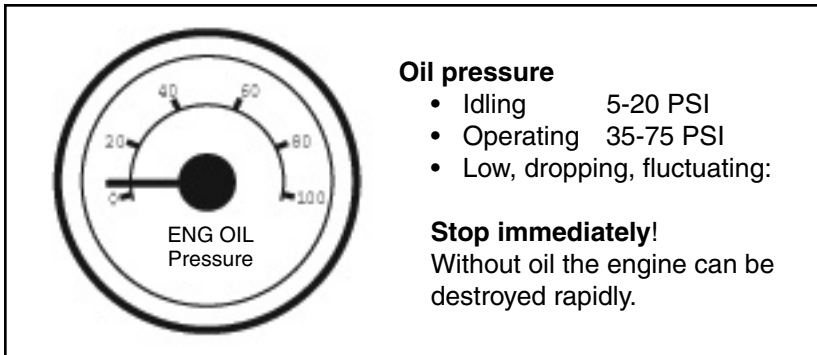

Figure 2.5
- **Oil pressure.** Should come up to normal within seconds after engine is started. See Figure 2.5.